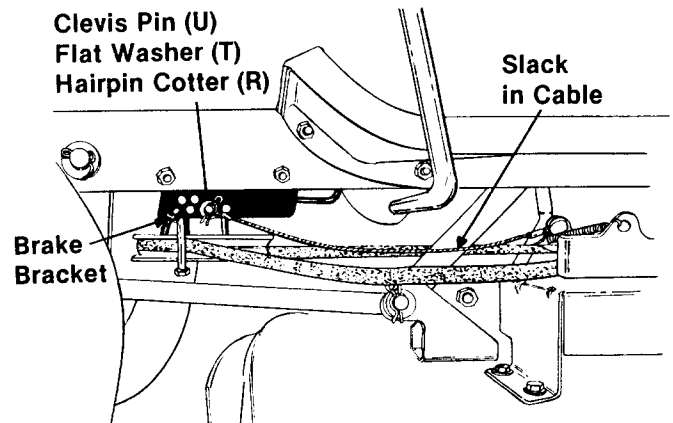

FIGURE 28
2. Pull the cable toward the front of the tractor and line it up with a hole in the brake bracket. Attach to the bracket with clevis pin (U), flat washer (T)
and hairpin cotter (R). There should be some slack in the cable as shown in figure 28.